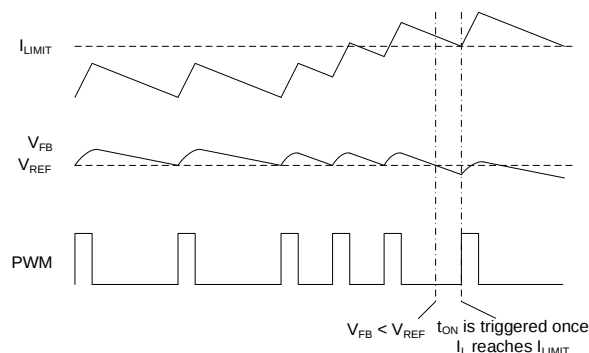

Figure 8: Valley Current-Limit Control
The MP8638 provides cycle-by-cycle over-current (OC) limiting. The current-limit circuit employs a valley current-sensing algorithm. The on resistance of the LS-FET is used as a current-sensing element. If the magnitude of the current-sense signal exceeds the current-limit threshold, then PWM cannot initiate a new cycle, regardless of whether  $V_{FB}$  is below  $V_{REF}$ . Figure 8 shows the valley current-limit control (see Figure 8).